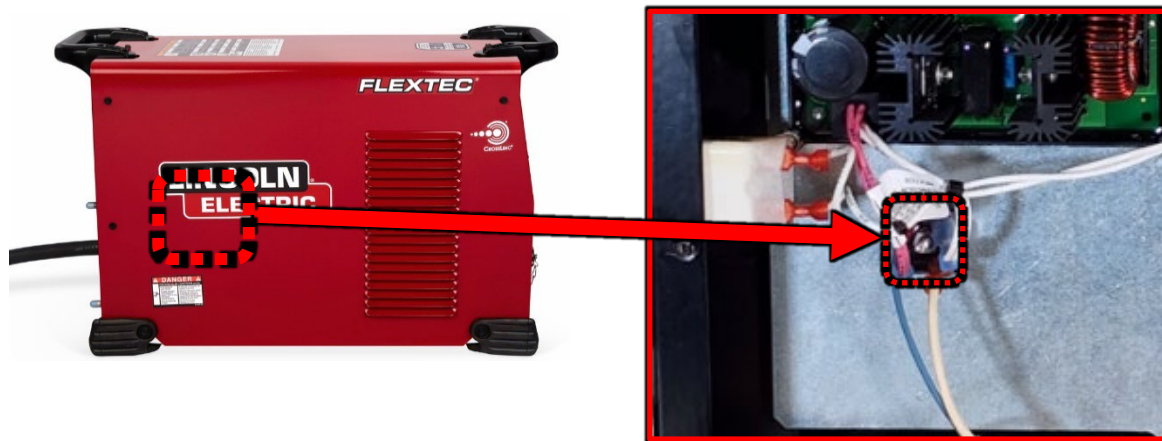

Figure F.1
1. For location of the D1 refer to Figure F.1.